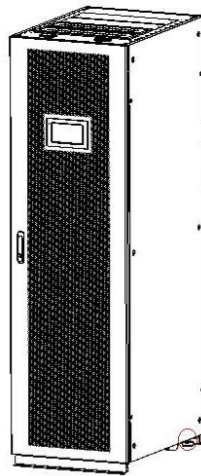

Fig. 3-3 Upward adjustment of leveling feet
Step 7: Turn the wrench counterclockwise to raise the four leveling feet at the bottom of UPS until all the four wheels at the bottom of the case are evenly landed and the leveling feet are completely suspended. See Fig. 3-3.